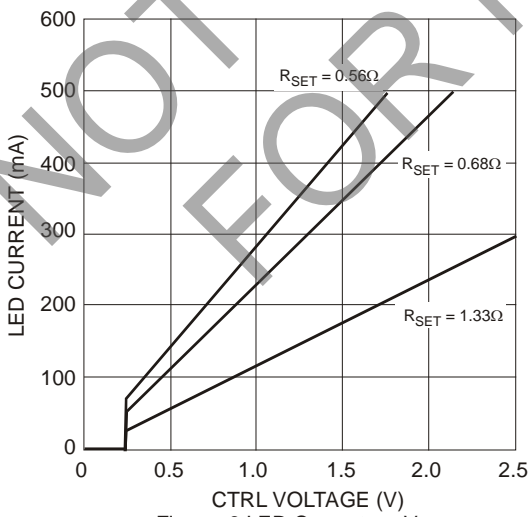

Figure. 6 LED Current vs.  $V_{CTRL}$
- Refer to Figure 6 for the device derating curve.